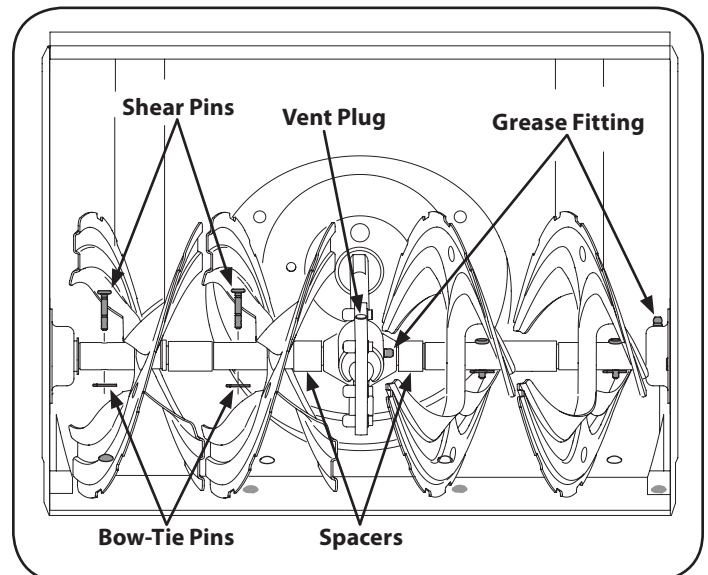

Figure 23
Lubricate with a grease gun once a season. See Figure 23.
NOTE: To relieve pressure, remove the vent plug before lubricating the gear case. See Figure 23. Failure to do so could result in damage to the gear case seals.
2. Replace the pins if needed. Two replacement shear pins and cotter pins have been provided with the snow thrower. Spray an oil lubricant into shaft before inserting new pins and securing with new cotter pins. See Fig. 23.